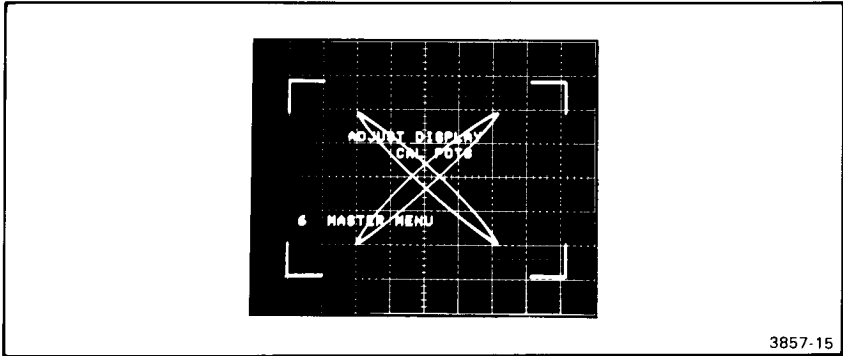

Figure 2-7. Adjust HORIZ CTR.
**Step 2** Adjust the HORIZ CTR (horizontal center) control to bring the left edge of the DISPLAY CAL PATTERN in alignment with graticule line 1 of the display as shown in Figure 2-7 (left-most graticule line is 0).